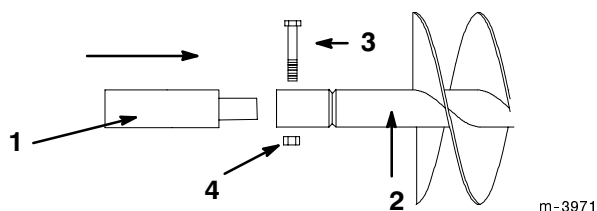

**Figure 3**
3. With the drive head in a vertical position, slide two 5/8"-11 x 3-1/2" bolts into the notches and holes in the front and back cradle arms and drive head (Fig. 3).
5. Manually rotate the auger drive head up and slide two 5/8"-11 x 3-1/2" bolts through the holes in the left and right cradle arms (Fig. 3).